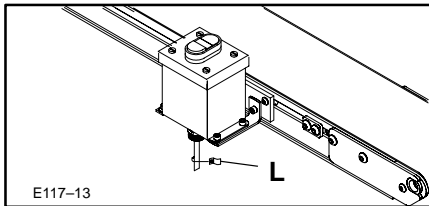

Figure 13: Cable Labeling (Detail provided only on Start-Stop End of Cable)
5. Label both ends of the Start-Stop Cable with the blank Labels (L) provided (Figure 13), using a permanent marking pen.